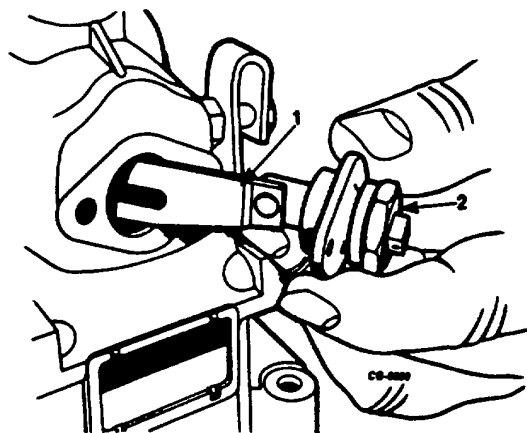

Figure 6. Removing Rack Stop Assembly
5. Pull control rack stop assembly to rear, then rotate approximately 45 degrees counterclockwise to permit stop shackle to pass governor levers and slide assembly from governor housing (See Figure 6).